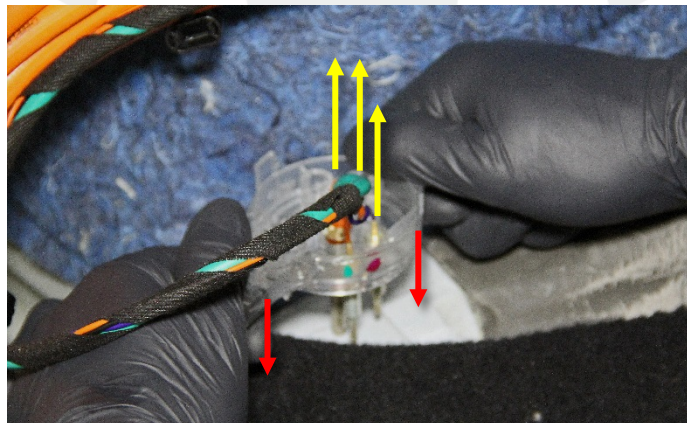

Figure 28
9. Place a shop cloth on top of the trunk floor insulation pad, and then push the pin carrier down onto the shop cloth to release the 3 pins from the pin carrier (Figure 28). Discard the pin carrier.